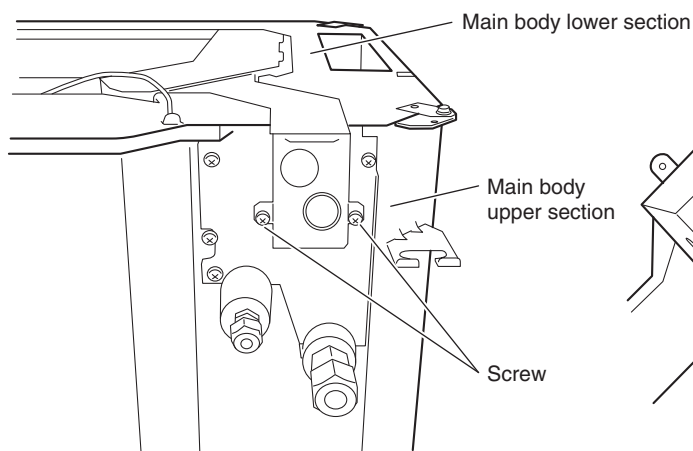

Fig.17
- (2) Remove the 2 screws. (Fig. 17)